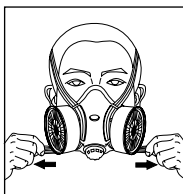
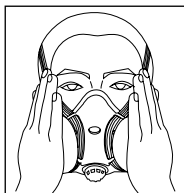

Fig. 5
Fig. 8
3. Place the bottom straps at the back of the neck and hook them together. Pull the end of the straps to adjust tightness until the mask fits securely and comfortably against your face. If necessary, readjust the straps, See Fig.5 to Fig.8.
1. Seal both respiratory filters with your palms and breathe in until a negative pressure (suction) is generated (Fig.8).